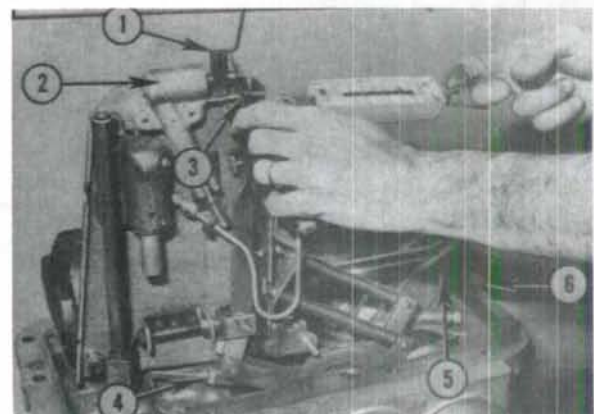

Fig. 201—View showing adjustment of position control linkage. Refer to text.
214. POSITION CONTROL. To adjust position control linkage, be sure wedge (1—Fig. 201) is still in place holding dashpot fixed against vertical lever. Position a spacer block (6) that is 16.15